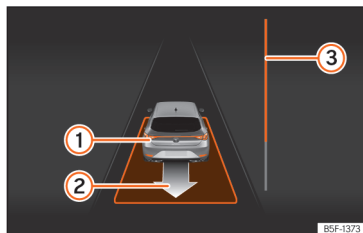

Fig. 155 On the instrument panel display: driving off from perpendicular parking.
- Reverse until the continuous ParkPilot signal sounds; **OR:** reverse until the instrument panel display shows the forward indication. The progress bar  Fig. 155  indicates the distance to cover.